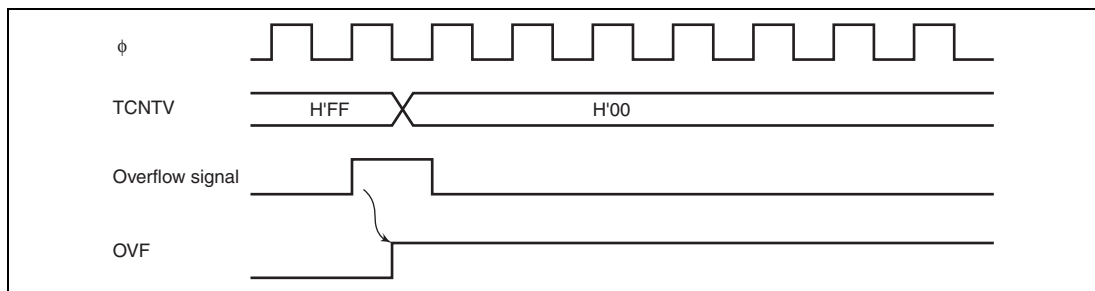

Figure 10.4 OVF Set Timing
2. When TCNTV overflows (changes from H'FF to H'00), the overflow flag (OVF) in TCRV0 will be set. The timing at this time is shown in figure 10.4. An interrupt request is sent to the CPU when OVIE in TCRV0 is 1.